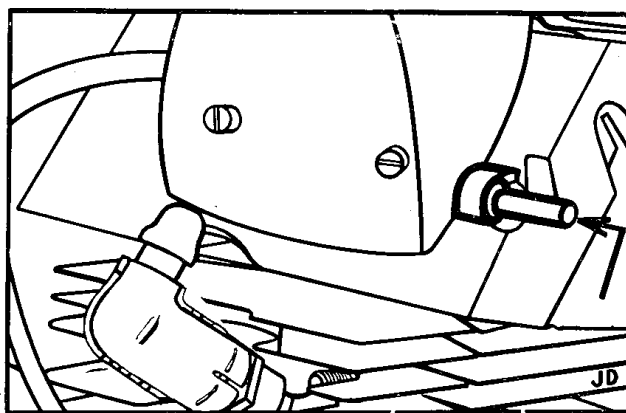

Fig. 5 — Air intake shut-off push button
- Intake air shut-off push button (Fig. 5).
Open the fuel cock (Fig. 4), and depress the air intake shut-off push button (Fig. 5] as far as it will go (after de-pressing it, the pin jumps out but the air intake remains shut). The engine can be started in two ways.